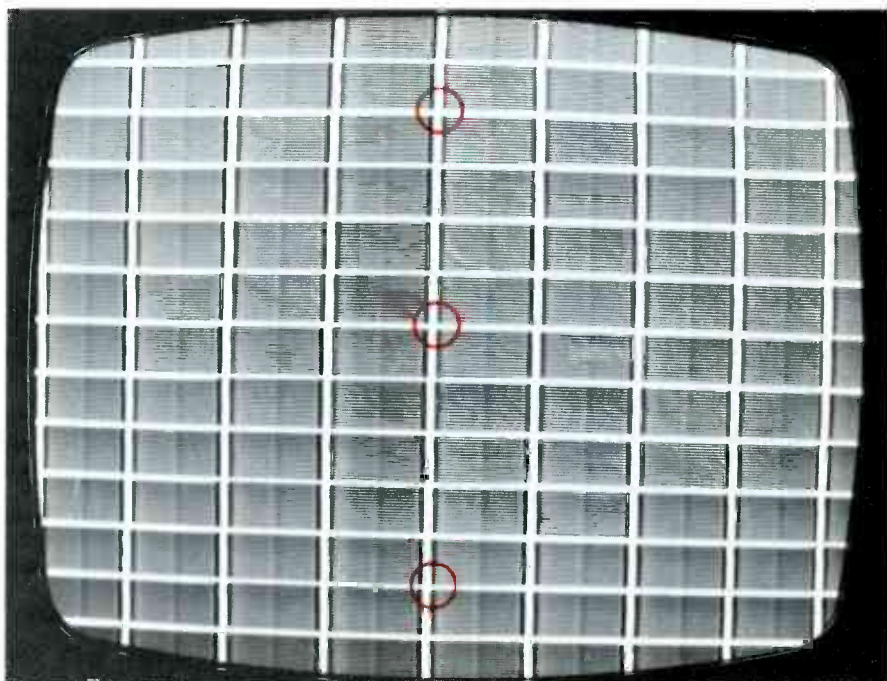

Fig. 5 Use only these three checkpoints when you perform center and vertical dynamic convergence.
2. Choose three checkpoints along the center vertical line as shown in Figure 5. One checkpoint should be nearest the center, and the other two about 2 or 3 inches from the top and bottom.